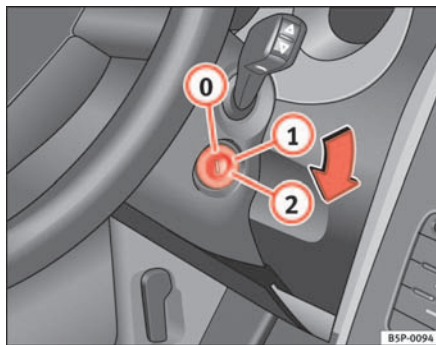

Fig. 131 Ignition key positions
In the position ⇒ fig. 131 the ignition and the engine are OFF and the steering may be locked.
- Turn the ignition key to position ⇒ page 157, fig. 131 ①. The indication lamp  will light for engine pre-heating.
- When the warning lamp goes out, turn the key to position ② to start the engine. Do not press the accelerator.
- Turn the ignition key to position ⇒ page 157, fig. 131 .